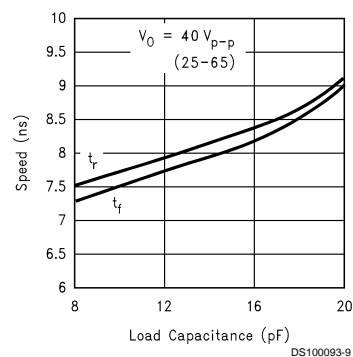

FIGURE 8. Speed vs Load Capacitance
*Figure 8* shows the effect of increased load capacitance on the speed of the device. This demonstrates the importance of knowing the load capacitance in the application. The previous section discussed how to optimize the transient response in the application with the use of a series inductor.